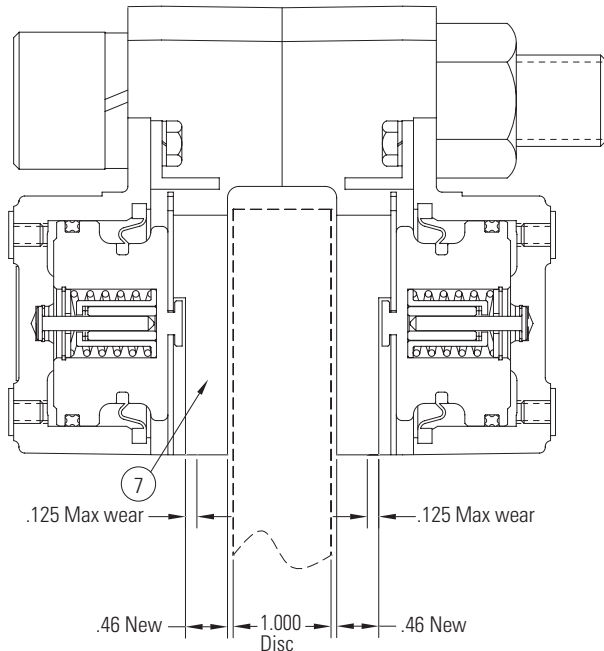

Figure 5
- 3.4.1 Inspect the friction material for wear as shown in Figure 5. If wear meets or exceeds the limits in Figure 5 proceed to section 4.3 for friction shoe replacement.
- 4.2.1 Wear Limit for the 225DP100 caliper disc brake assembly friction material is shown in Figure 5. If the friction material wear limit has been reached or exceeded, replace the friction shoe assembly as required.
- 4.3.1 Inspect the friction material to ensure that it is clean and free from oil and grease. Measure the material thickness for wear. See Figure 5 and to determine if the friction shoe assemblies require replacement. A new friction shoe assembly is 21/32" (16.7 mm) not including the steel backing plate. When the material thickness is worn to approximately 9/32" (7.4 mm) or within 1/8" (3.2 mm) of the mounting slot in the friction material, new friction shoe assemblies should be installed.
- 4.3.2.1 Verify that the wear limit has been reached as shown in Figure 5.